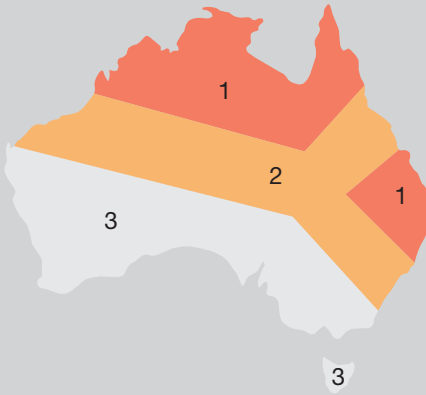

Figure 3: Hager Thunder Day Map
- Exposure level of the installation, refer hager thunder day map (figure 3)